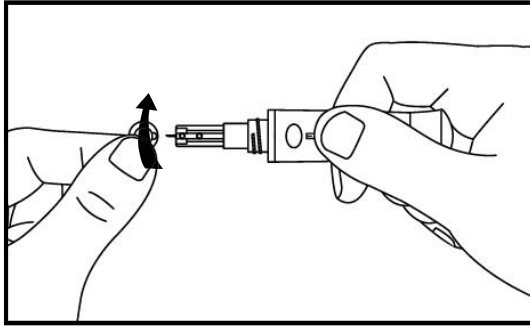

Fig. 24
Step 3: Hold the lancet firmly in the lancet holder and twist the safety tab of the lancet, then pull the safety tab off. Save the safety tab for lancet disposal.(Ref Fig. 24)